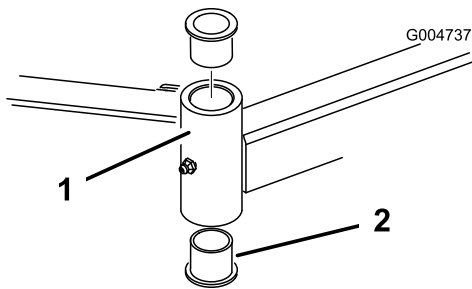

Figure 26
4. Insert a pin punch into the top or bottom of the mounting tube and drive the bushing out of the tube (Figure 26). Also, drive the other bushing out of the tube. Clean the inside of the tubes to remove dirt.